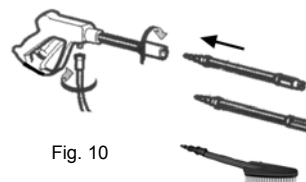

Fig. 10
- Once the high pressure hose is connected to the trigger gun, you can attach any of the lances and accessories that you desire. To attach either of the lances or the brush to the trigger gun, hold the trigger gun in your left hand insert the desired lance or the brush and push it in all the way into the connector on the trigger gun and turn it clockwise 60° until it locks in place. To remove the attachment, push down on the attachment and turn counter-clockwise 60° and then pull out. Make sure that the attachments are securely locked in place before use. (Fig. 10)